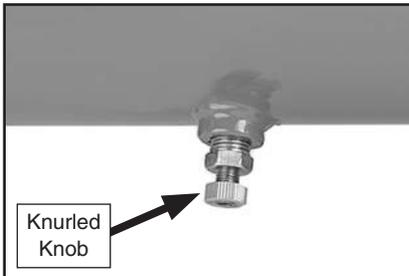

Figure 16. Tank drain valve.
2. Leave the tank pressurized and turn the knurled knob shown in **Figure 16** counterclockwise to drain the water.